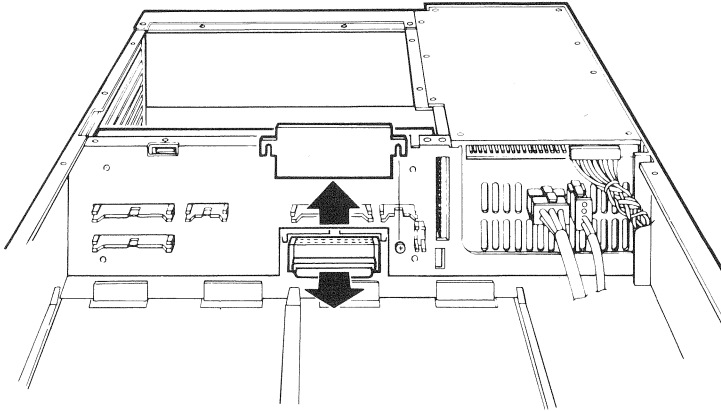

Figure 8-17 Access Cover Removal
5. Remove the two screws retaining the access cover and remove the cover (Figure 8-17).